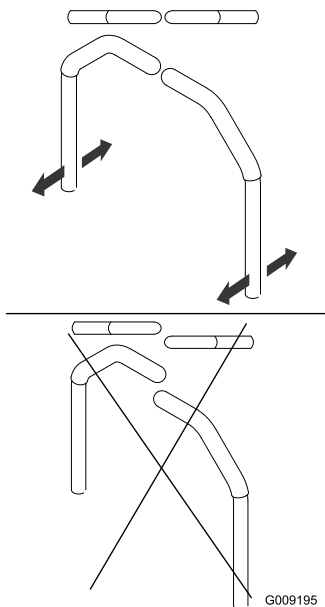

Figure 88
4. Align the levers in the front-to-rear position by bringing the levers together to the NEUTRAL position, and slide them until they are aligned, then tighten the bolts (Figure 88).